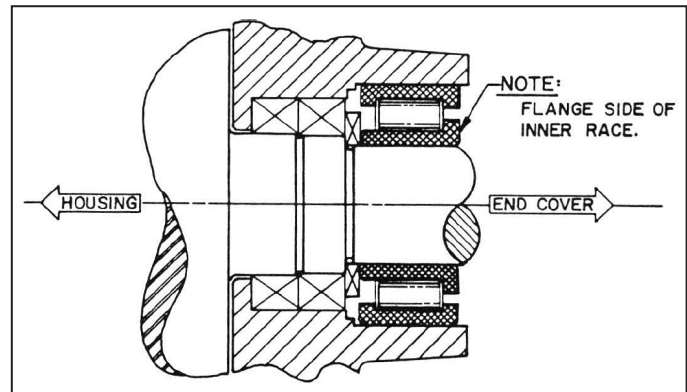

Figure 10 - Roller Bearing Flange
- Stand rotors [1] on arbor press table with gear end shafts up. See Figure 10. Two keyways should point in the same direction, to the right.
- Install bearing spacers [123] on each shaft. Lubricate shafts and install roller bearings [10]. CAUTION: Inner race of bearing has a flange on one side only. This flange must face outward. See Figure 10.